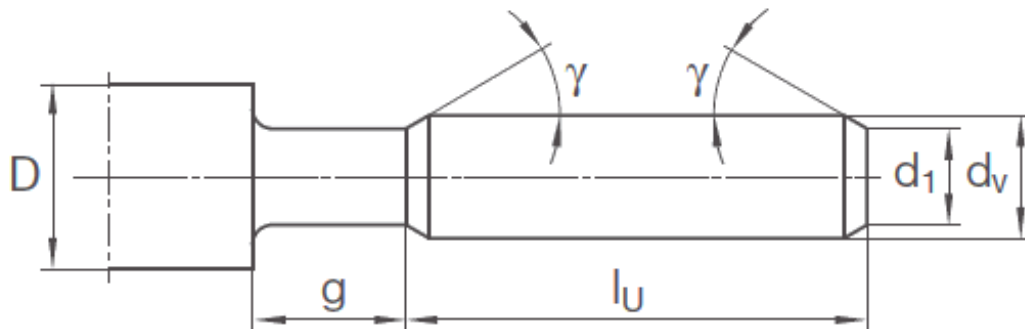

Figure 17: Preparing the work piece with undercut (thread runout)
5. Perform the undercut and the two chamfers according to figure 17.